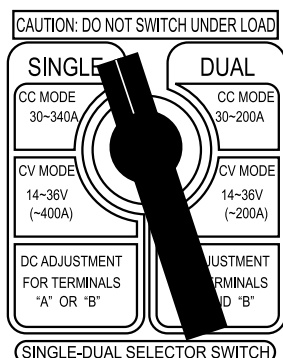

Figure 29. Single-Dual Selector Switch (Single Position)
1. Place the welding mode selector switch (Figure 29) in the **single** mode position.